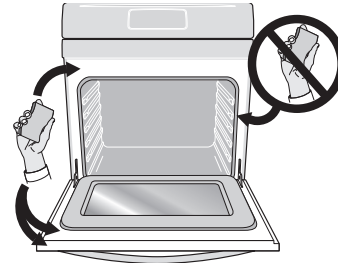

Figure 21: Clean around the oven door gasket
9. Wipe oven cavity and bottom. Do not clean oven door gasket (Figure 21). Avoid leaning or resting on the oven door glass while cleaning cavity.